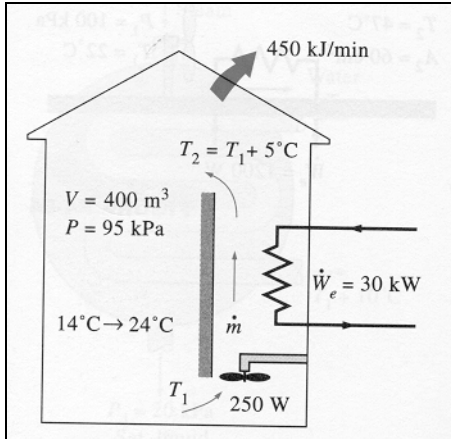

Fig. 2
2. A building with an internal volume of 400 m³ is to be heated by a 30-kW electric resistance heater placed in the duct inside the building (Fig. 2). Initially, the air in the building is at 14 °C, and the local atmospheric pressure is 95 kPa. The building is losing heat to the surroundings at a steady rate of 450 kJ/min. Air is forced to flow through the duct and the heater steadily by a 250-W fan, and it experiences a temperature rise of 5 °C each time it passes through the duct, which may be assumed to be adiabatic.